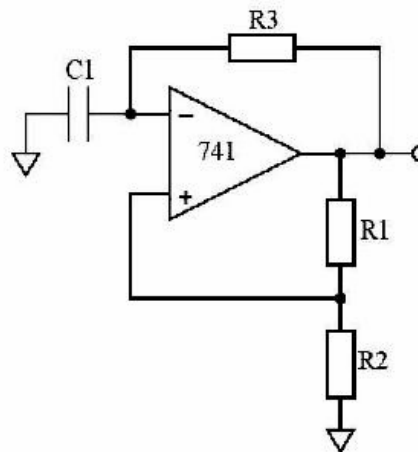

Figure 1: Astable Multivibrator
The astable multivibrator may be created directly with transistors or with the use of integrated circuits such as operational amplifiers (op amps) or the 555 timer. Most operational amplifiers are powered by a positive and negative rail voltage—the output is never able to exceed these rail voltages. An example circuit is shown in Figure 1. Depending upon the initial conditions, the op amp's output will be driven to either the positive or negative rail. Upon this occurrence, the capacitor will either charge or discharge through resistor R_2 (its voltage slowly rising or falling). As soon as the voltage at the op amp's inverting terminal is equal to the voltage at the non-inverting terminal (the op amp's output voltage divided between R_1 and R_2), the output will be driven to the opposing rail. This process then repeats with the capacitor discharging if it had previously charged and vice versa. Once the inverting terminal reaches the voltage of the non-inverting terminal, the output again is driven to the opposing rail voltage and the cycle begins again. Thus, the astable multivibrator creates a square wave with no inputs. The period of the astable multivibrator displayed in Figure 1 is:
Fill in Table 1 and the value for R_3 in Table 2 with the appropriate values for the circuit in Figure 1 to produce a 250 Hz square wave. Before you begin lab, obtain your instructor's signature for these values.
Construct the astable multivibrator displayed in Figure 1 using a 741 operational amplifier and the components selected in the theoretical procedure (prelab).
Construct a PSpice[®] schematic of the astable multivibrator displayed in Figure 1 using your measured component values and the "op amp" part—set the rail voltage of the op amp to those used in lab. Set the initial condition (IC) of the capacitor to 0.001 Volts.
5. Using the knowledge from the second Op Amp lab, what could be added to Figure 1 to generate a triangular waveform? Draw an appropriate schematic for the circuit to achieve this (you do not need to give components specific values).